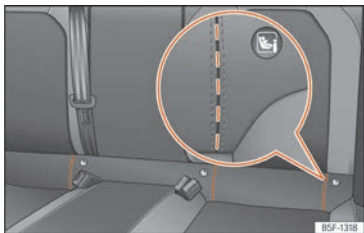

Fig. 32 Rear seat: die cut slots to access the ISOFIX / i-Size securing rings.
floor. The "ISOFIX" rings are located between the rear seat backrest and the seat cushioning »» Fig. 32, »» Fig. 33. The Top Tether rings are located on the rear part of the rear seat »»
- Open the cut-out section behind the marked grooves to access the retaining rings »» Fig. 32.